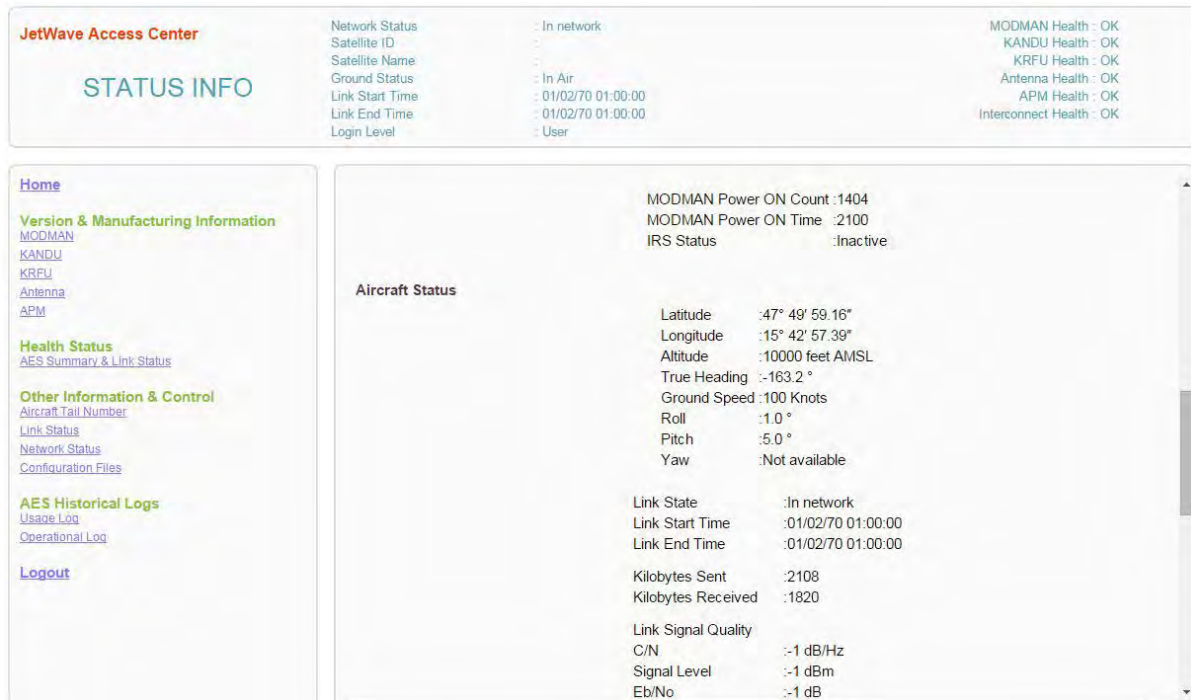

Figure 3-13. Aircraft Statuses
Navigate to the AES Summary and Link Status page and scroll down to see the aircraft status. Refer to Figure 3-13.
- (1) Power up the system and let it acquire to the network.
- (2) Begin a two way (Rx and Tx) video conference call with a tool such as Microsoft Lync or Skype.
- (3) Test the functioning of other communication systems with antennas installed adjacent to the FMA or TMA and observe for any mutual interference.
- (4) Monitor the link signal quality C/N and E_b/N_o parameters. These parameters are found under Aircraft Statuses as part of the AES Summary and Link Status page. Refer to Figure 3-13.